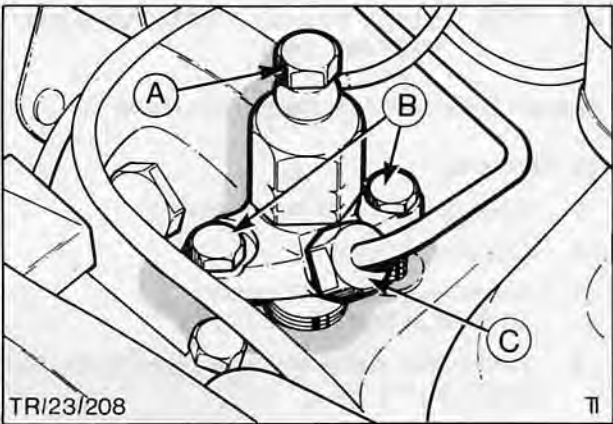

Fig. 75. No. 1 Injector assembly
4. Disconnect leak off pipe fuel supply pipe, remove 2 bolts and detach injector, Fig. 75.